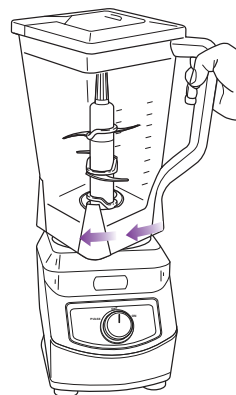

Fig. 2
- 3 Rotate the pitcher to the left as far as it will go. As the pitcher rotates, it will lower and the safety tabs on the bottom of the pitcher will slide under the safety tabs on the top of the motor base. (Fig. 2)